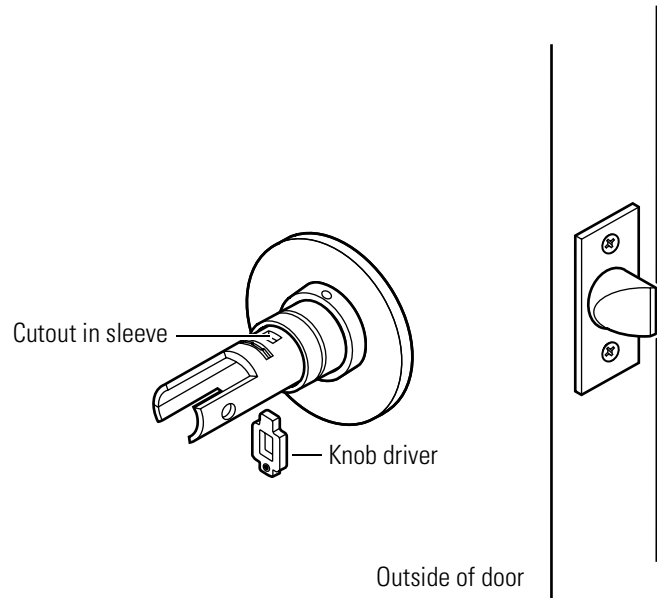

Figure 3.6 Reinstalling the knob driver
1. Position the knob driver as shown in Figure 3.6.